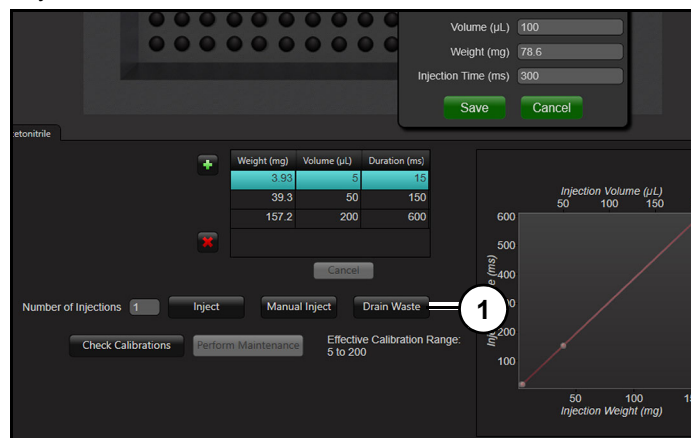

Figure 21
Click "Drain Waste" (1) (Figure 21) to drain waste from waste tray.